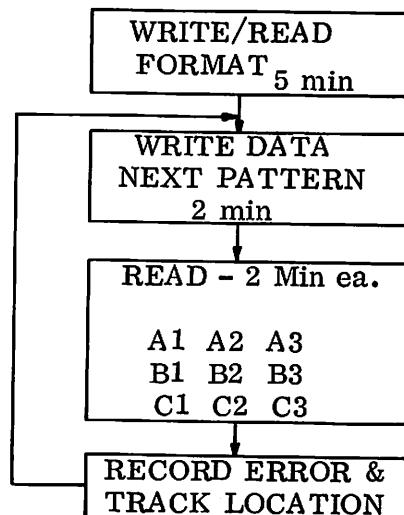

FIGURE 6-22. CERTIFICATION OF FIXED MEDIA
5. Write data pattern I in Figure 6-22 in each data field.
7. Repeat Steps 5 and 6 for data patterns II through IV in Figure 6-22.